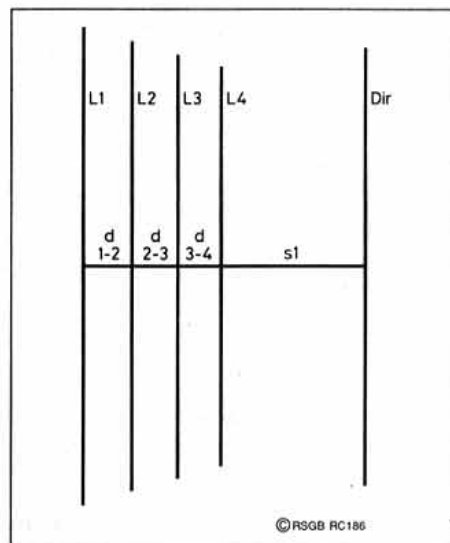

Fig 4: 50MHz five-element LPY, dimensions.
**DIMENSIONS FOR THE 50MHz LPY FIG 4**
THE CALCULATED GAIN was 9.36dBd using  $\tau = 0.94$  and  $\sigma = 0.05$ . Total boom length was under 6ft (1.83m). See Fig 4 and Table 2.